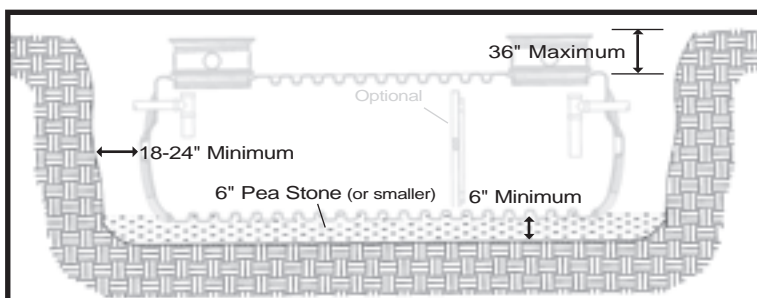

FIG.1 Excavation
- Width and length of excavation shall be 18-24" greater than the tank on all sides and ends (FIG.1).
- Depth of the excavation shall be 6" greater than the tank (FIG.1).
- Add pea stone, sand, gravel or other similar granular material to bed the tank and ensure uniform compaction and that bed is level (FIG.1)